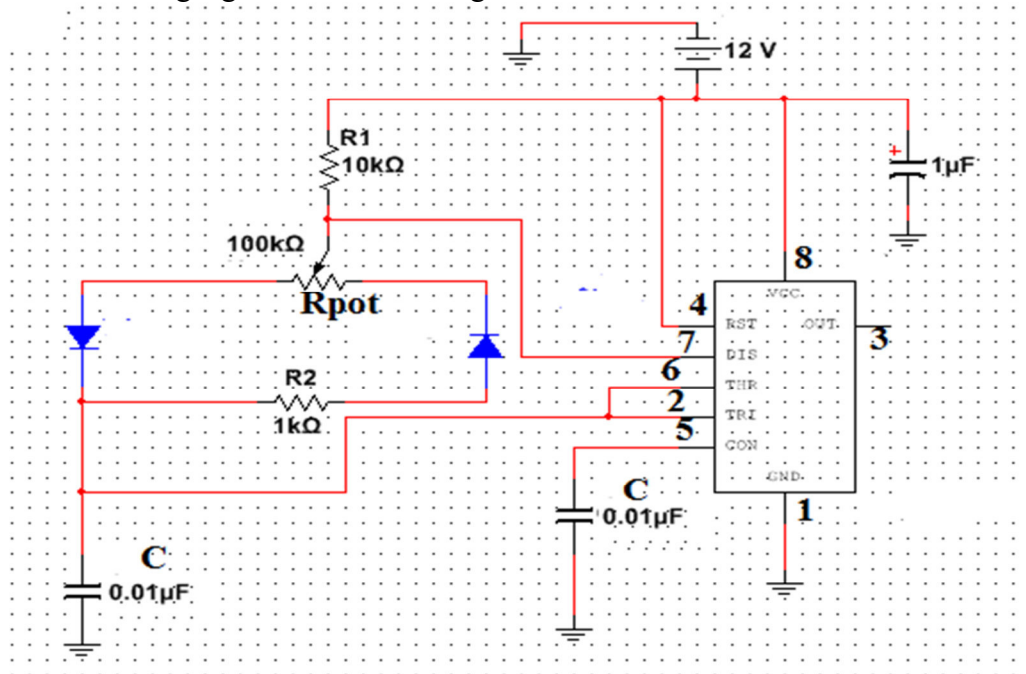

Figure 9.5: 555 Timer As Astable Multivibrator to Generate Fixed Frequency and Variable Duty Cycle Signal
- Implement the astable multivibrator circuit using 555 timer IC on breadboard, to generate switching signal as shown in Figure 9.5, on breadboard.